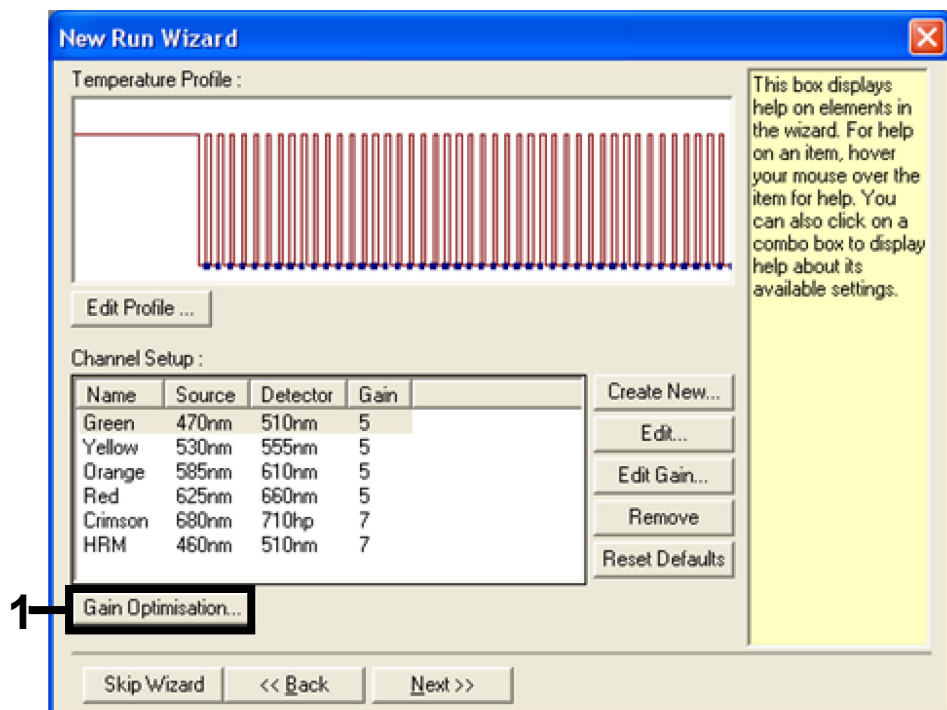

Figure 29. Gain optimization (1).
12. In the next dialog box, click "Gain Optimization" (Figure 29).